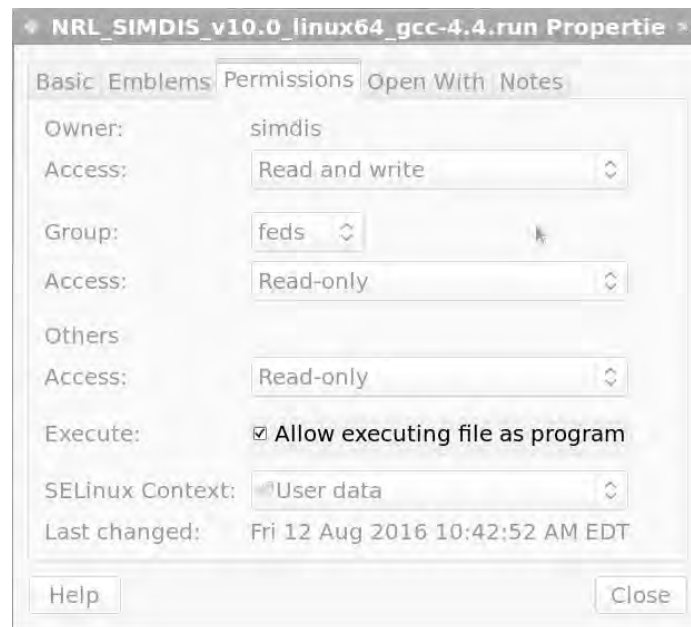

Figure 2.2: Linux File Properties Dialog
4. Verify that the **Allow executing file as a program** is checked Figure 2.2.